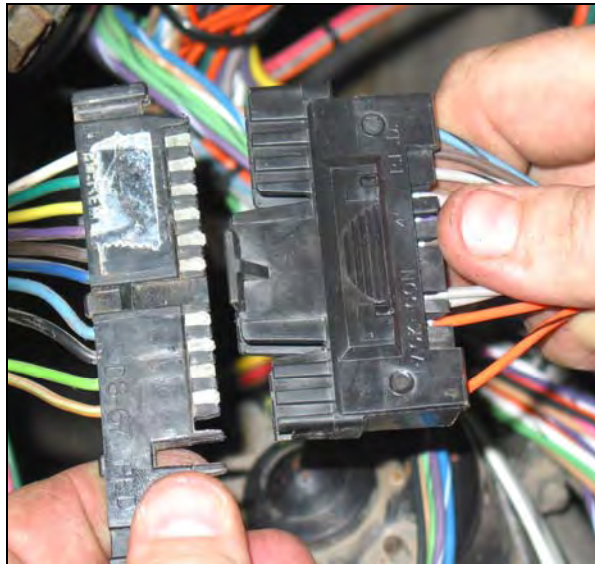

Figure 7.4.3 *Turn Signal Switch Connection*
- 7.4.3 The TURN SWITCH wires come pre-terminated with a connector installed. Slide the connector onto the TURN SWITCH pigtail. (see **Figure 7.4.3**) This will be the wires coming from the column with the long black connector.